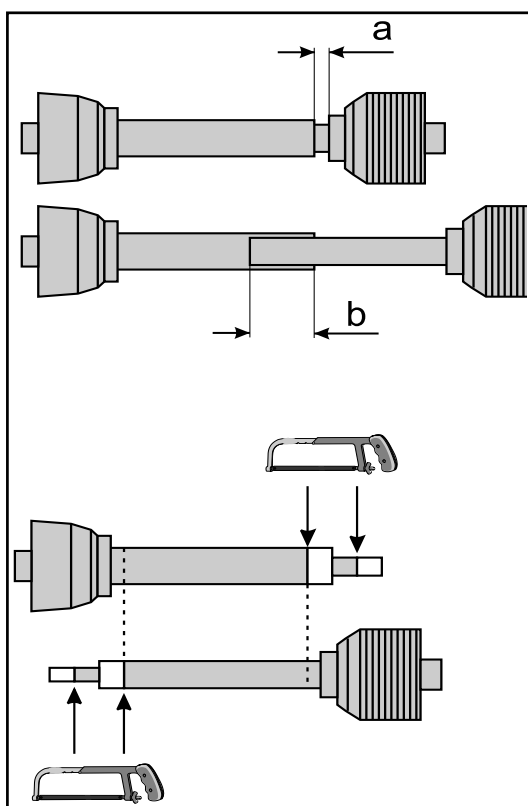

Figure 3-4
- the cardan shaft does not come into contact with the block (minimum clearance (a) = 20 mm). (Figure 3-4)